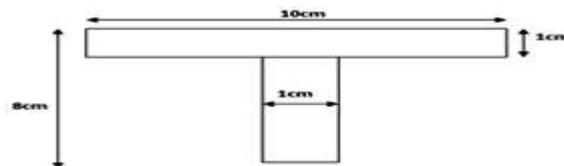

Fig. 6 (b)
b. Determine the buckling load for a T-section shown in Fig. 6(b) having 3 m long and hinged at both ends. Take $E = 200 \text{ GPa}$ **10** (3 :3: 1.7.1)